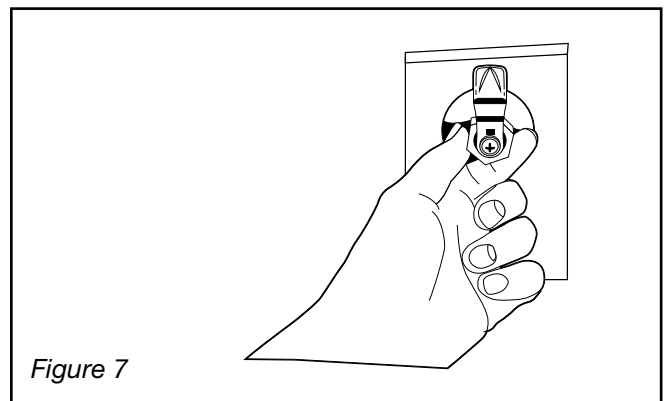

Figure 7
8. Be sure to position the lock in the upright position and attach the plastic nut on the back side of the lock cylinder. See Figure 7.